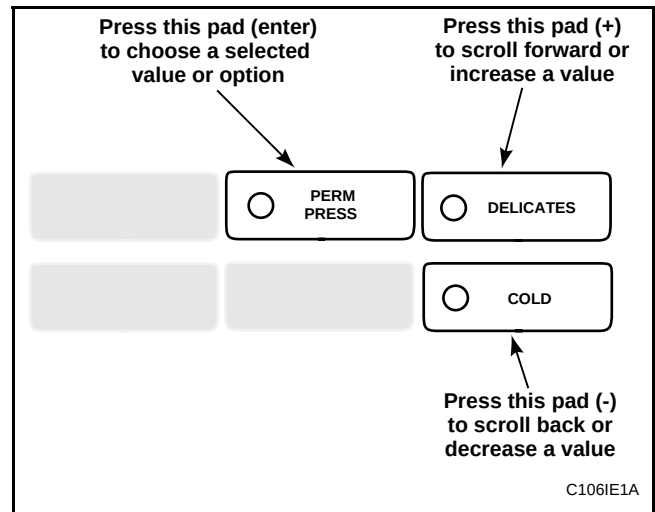

Figure 51
5. Press the DELICATES (+) or the COLD (-) keypad to increase or decrease the current number of minutes displayed in the VFD to the desired number of minutes. See **Figure 51**.